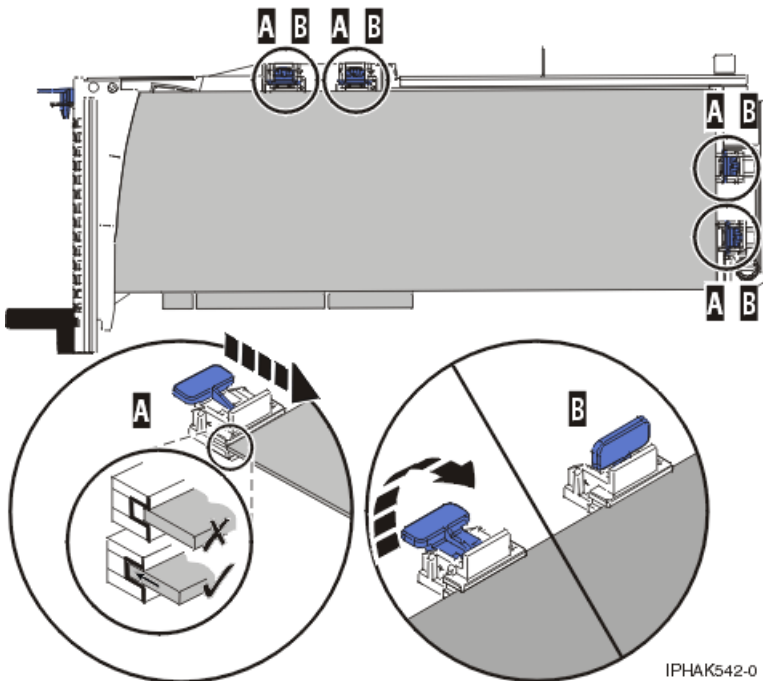

Figure 157. Long adapter in the PCI adapter cassette with the supports and stabilizer in place
- 3) Place and lock the retainers (**B**). See Figure 157.